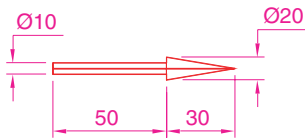

Fig. 15.14 Third example – a **Polar Array** – the 3D model to be arrayed
1. Working on a layer of colour red, construct a solid of revolution in the form of an arrow to the dimensions as shown in Fig. 15.14.